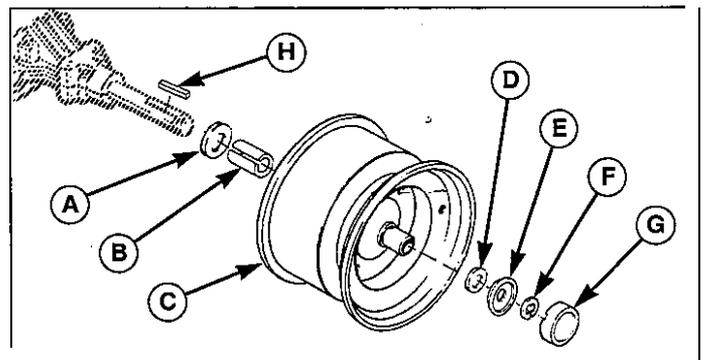

Figure 27. Wheel and Axle Assembly
5. Remove the plastic hub cap (G, Figure 27).
6. Remove e-ring (F, Figure 27) using a screwdriver.
7. Remove the washers (D) and wheel (C).
NOTE: Your axle assembly may differ slightly from the assembly pictured: washer (D, Figure 27) may be missing or doubled. This is adjusted on a tractor by tractor basis during assembly to allow a small amount of axle end-play.
9. See Figure 27 for assembly. Reinstall components in reverse order of disassembly and lower the unit. Be sure the key (H) is in place in the axle key-way.